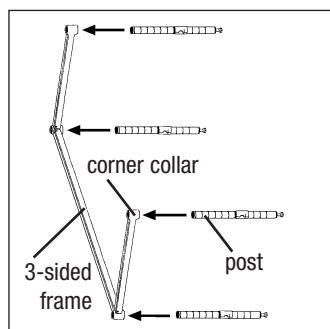

Figure 1b
- B. Holding the 3-sided frame on its side, insert the posts through the corner collars until the split sleeves are seated snugly within the collars (see Figure 1b).